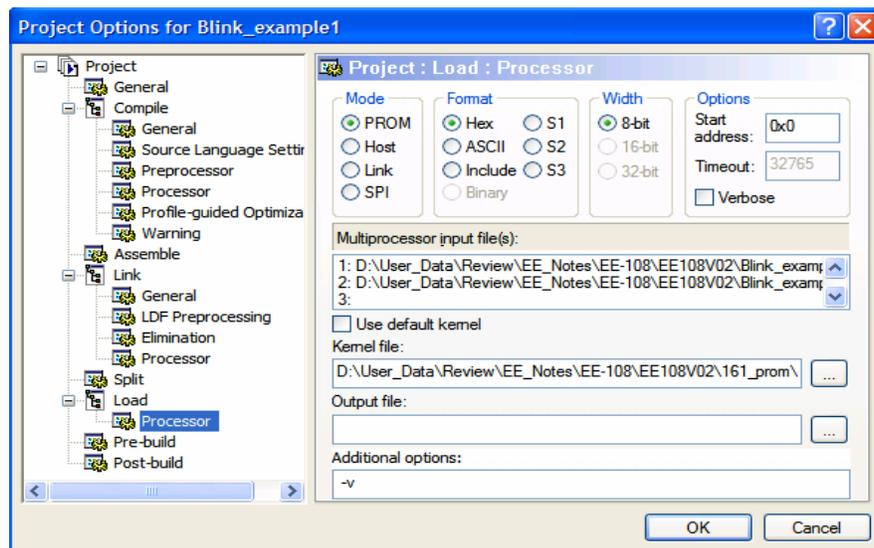

Figure 7 Loader options for using the multiprocessor boot feature
2. **Create the loader file.** Create the combined loader file for both applications with the loader options, as shown in Figure 7. Program the loader file in to the flash using the VisualDSP++ Flash Programmer utility.